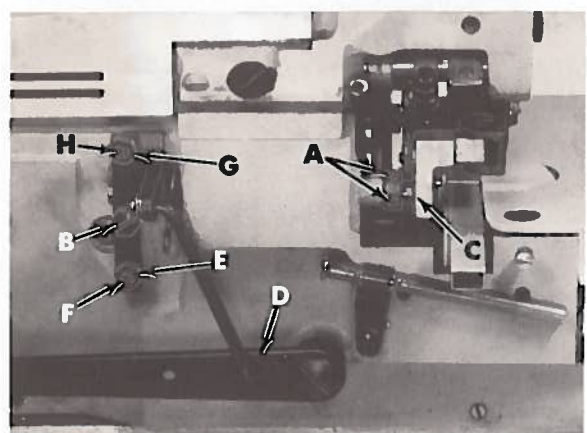

Fig. 24
To align presser foot needle slots to throat plate needle slots left to right, loosen collar screws (A, Fig. 24) and clamp screw (B). Adjust lifter lever shaft (C) left or right as required and tighten collar screws (A). Hold lifter lever (D) up and tighten clamp screw (B).
If adjustment is required, loosen locknut (E, Fig. 24) and adjust stop screw (F) so presser foot will not interfere with upper looper/spreader, then tighten locknut (E).